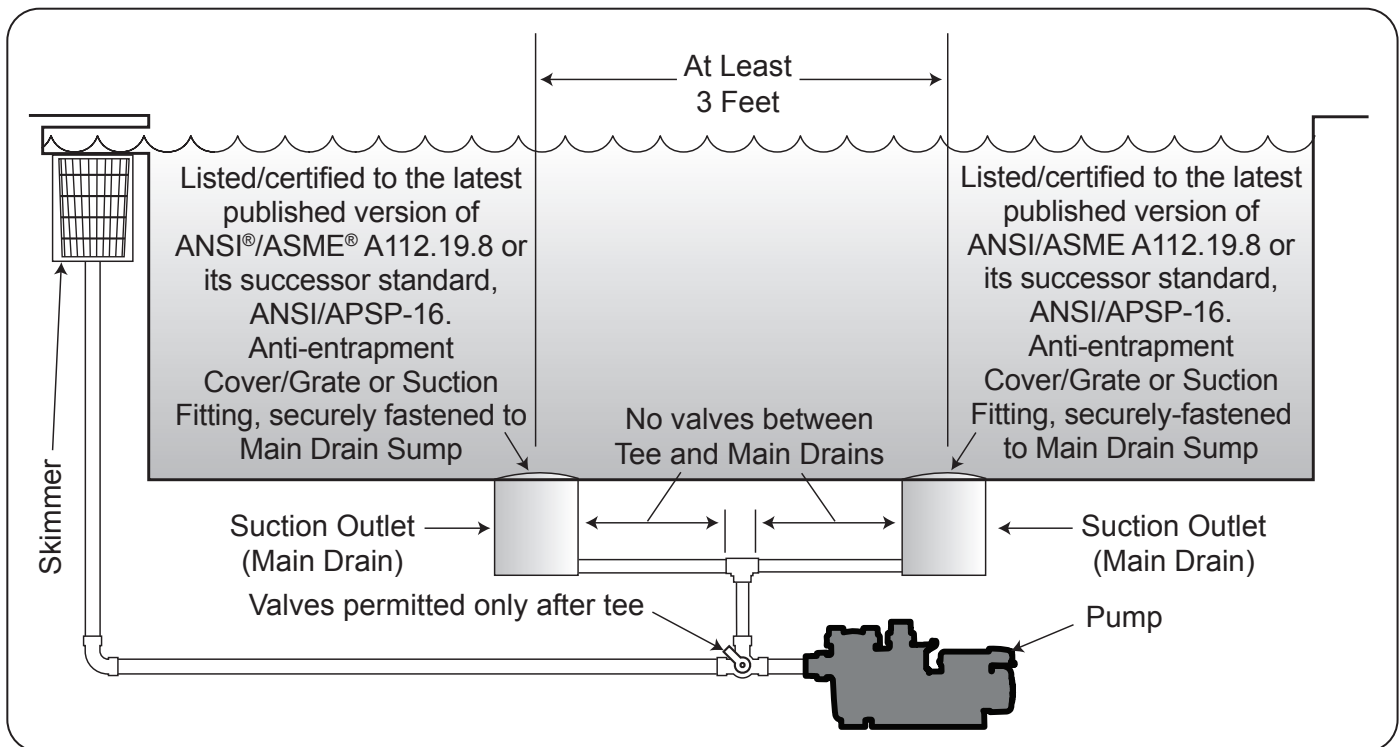

Figure 1. Number of Suction Outlets Per Pump
Number of Suction Outlets Per Pump: Provide at least two (2) hydraulically-balanced main drains, with covers, as suction outlets for each circulating pump suction line. The centers of the main drains (suction outlets) on any one (1) suction line must be at least three (3) feet apart, center to center. See Figure 1.
The system **must** be built to include at least two (2) suction outlets (drains) connected to the pump whenever the pump is running. However, if two (2) main drains run into a single suction line, the single suction line may be equipped with a valve that will shut off both main drains from the pump. The system shall be constructed such that it shall not allow for separate or independent shutoff or isolation of each drain. See Figure 1.